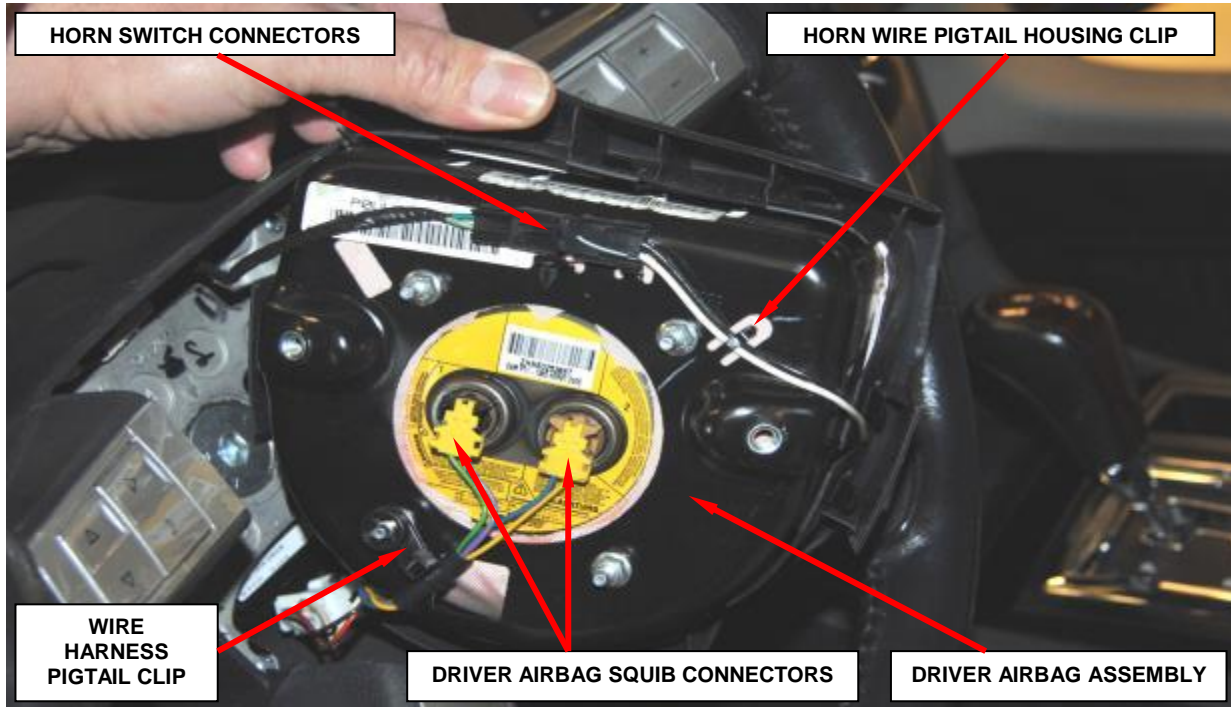

Figure 2 – Electrical Connectors
4. Pull the driver airbag assembly away from the steering wheel far enough to access the three electrical connections on the back of the airbag housing (Figure 2).
5. Disconnect the steering wheel wire harness connector for the horn switch from the horn switch feed pigtail wire connector, which is located on the back of the driver airbag housing (Figure 2).
NOTE: The squib connector receptacle locations on the driver airbag inflators are switched between the original Takata inflator and the TRW replacement inflator kits. Squib connectors are keyed and color coded for error proofing (Figure 2).